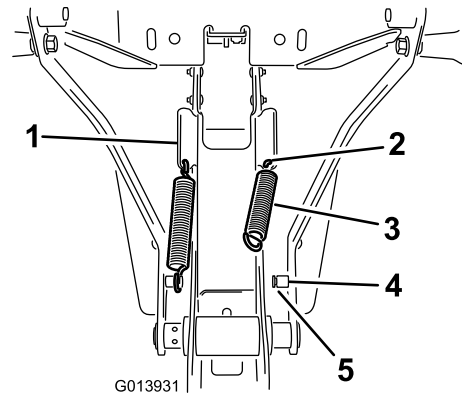

Figure 8
- Hook the end of a spring into the hole in the angle tab and hook the other end onto the spring post (Figure 8).
- Make sure that the spring end is seated properly in the groove in the post (Figure 8).
- Install the spring in the hole in the lower end of the angled tab on the side of the frame assembly (Figure 8).